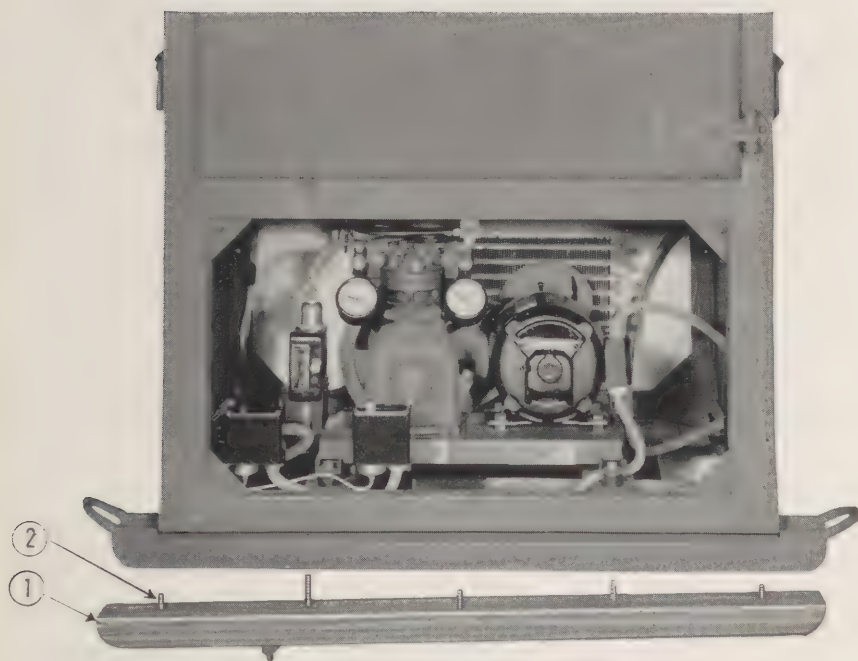

Figure 72. Replacing cabinet skid inserts.
- (1) In the case of a small rupture the hole can be soldered by using a large soldering iron. Thoroughly clean the surface of the metal before applying flux and solder.
- (2) In the case of a large rupture or tears in the metal, a sheet metal patch can be made to cover the damaged area. This patch can be held in place by either soldering or sheet metal screws. In the latter case a layer of mastic compound should be applied beneath the patch to make the joint air tight. After soldering on the outside surface the patch must be painted.
**f. Replacing the Cabinet Skid Inserts.** Should the skids be broken or indicate excessive wear they must be replaced. To replace the skids proceed as follows. (Fig 72.)
- (1) Tip the cabinet forward or backward to gain access to the carriage bolts (item 2).
- (2) Remove the 6 carriage bolt nuts from the unit compartment side of skids.
- (3) Drive out the carriage bolts and pry the skid insert (item 1) free.
- (4) Install new skid and drive carriage bolts into position.
- (5) Replace the 6 nuts on each skid.